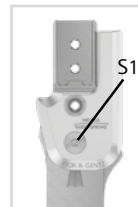

fig. 13
- 8 Screw in the first countersunk flat head screw (axle screw, S1; fig. 13).